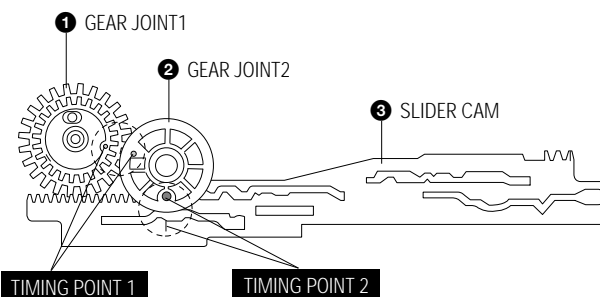

Fig. 2-20 Gear Joint 1,2 Assembly
- 1) Be sure to align dot mark of Gear Joint 1 ❶ with dot mark of Gear Joint 2 ❷ as shown Fig 2-20.